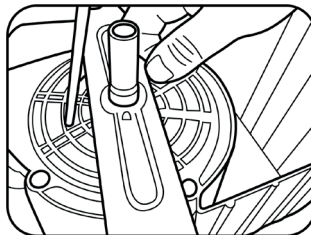

Fig. 7.2
- ✿ Loosen the blade bolt and remove the blade. Then retighten firmly. Figure 7.2